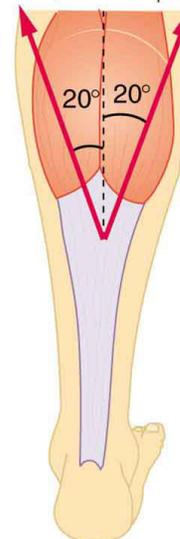

Figure 9.37 The Achilles tendon of the posterior leg serves to attach plantaris, gastrocnemius, and soleus muscles to calcaneus bone.
46. Two muscles in the back of the leg pull on the Achilles tendon as shown in **Figure 9.37**. What total force do they exert?